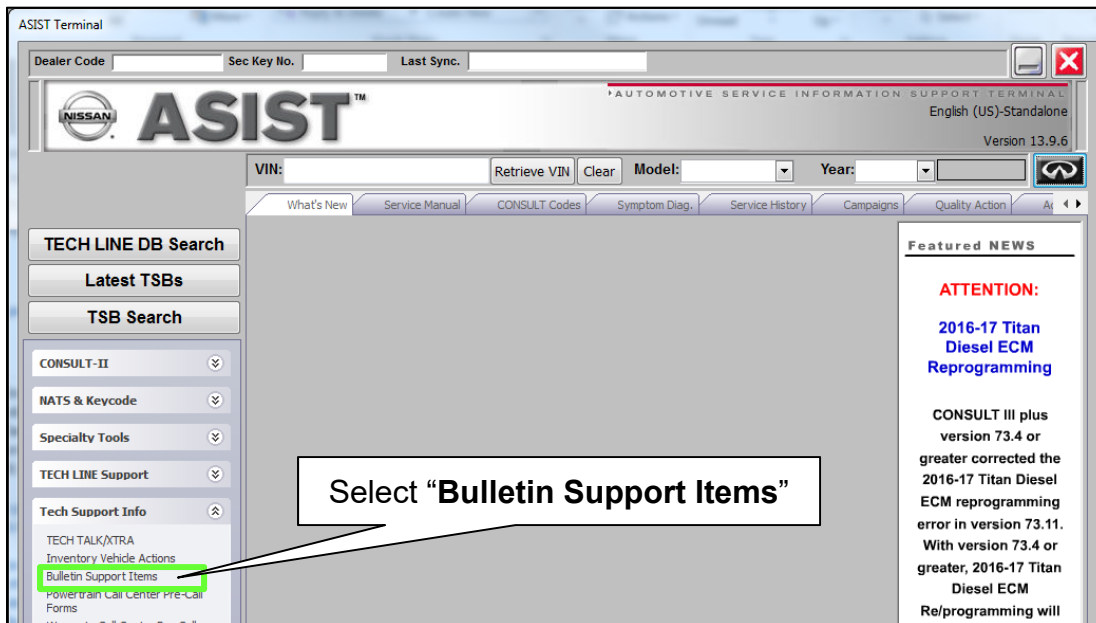

Figure 2
- The form can be accessed by selecting **ASIST > Bulletin Support Items > Voluntary Service Campaign – 2009 Murano (Z51) Brake Fluid Flush Check Sheet** (see Figures 2 and 3).
- The form can be accessed by selecting **ASIST > Bulletin Support Items > Voluntary Service Campaign – 2009 Murano (Z51) Brake Fluid Flush Check Sheet** (see page 6, Figures 2 and 3).